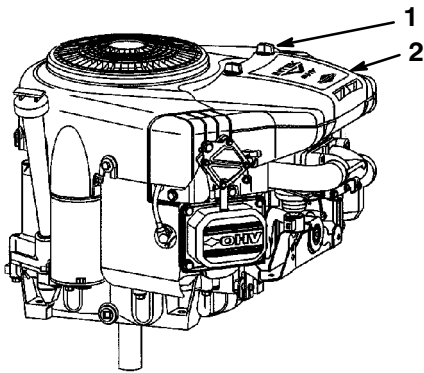

Figure 29
3. Clean around the air cleaner to prevent dirt from getting into the engine and causing damage. Unscrew the knobs and remove the air cleaner cover (Fig. 29).